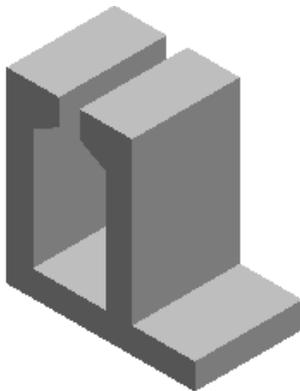
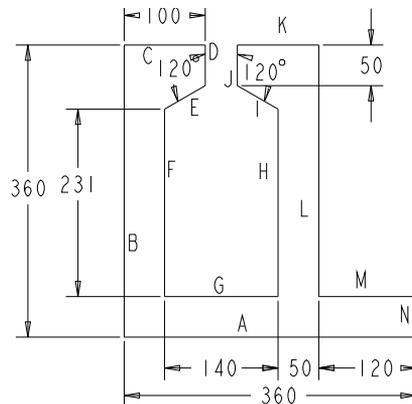

Figure 2-27 Model for Tutorial 2
Figure 2-28 Sketch of the model
In this tutorial, you will draw the sketch for the model shown in Figure 2-27. The sketch is shown in Figure 2-28. For your reference, all entities in the sketch are labeled alphabetically. **(Expected time: 30 min)**
The sketch in Figure 2-28 consists of only lines. For ease of understanding, all lines in the sketch are labeled alphabetically.
- Now, continue drawing the remaining lines that are shown in Figure 2-28. When the sketch